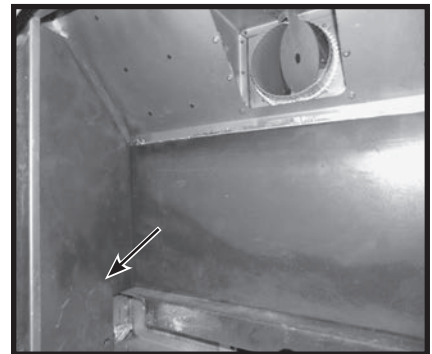

Fig. 83: Side Panels in place
3. Insert first side panel by tilting the panel into the fire box chamber. Then slide the panel in until it reaches the firebox side wall. See Fig: 83.